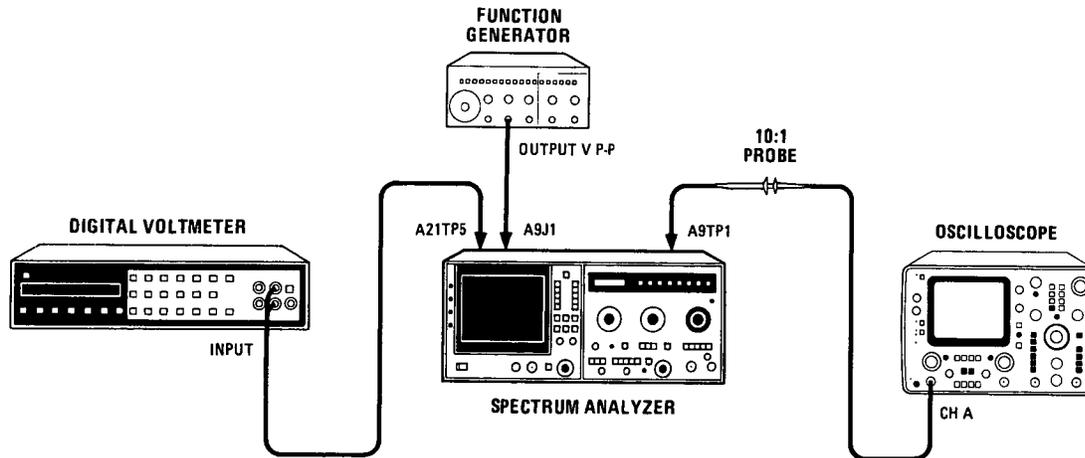
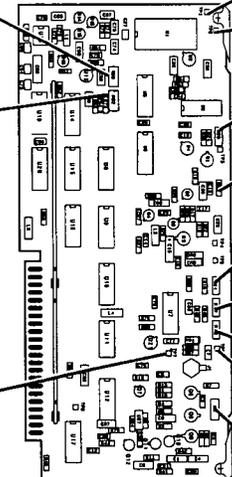

Figure 5-12. Digital Storage Adjustments Test Setup
Figure 5-13. Digital Storage Adjustment Locations
A description of all test routines is provided in the preceding section, with instructions for entering and exiting the routines. For convenience, some descriptions are repeated in this section. The test setup for digital storage adjustments is shown in Figure 5-12. Adjustment locations are shown in Figure 5-13.
3. Connect oscilloscope probe to A9TP1 DGTL VERT and ground probe to A9TP2 GND 3 (Figure 5-12).
4. Adjust A9R62 STROKE GAIN (Figure 5-13) so that raster (large shaded area on oscilloscope) is 3V peak-to-peak.
3. Adjust A5R100 DGTL X GAIN and A5R108 DGTL X OFFSET (Figure 5-13) so that vertical lines of test pattern coincide with left and right graticule lines of CRT. Exact coincidence should occur at graticule centerline. These two adjustments are interactive; repeat until best match is achieved.